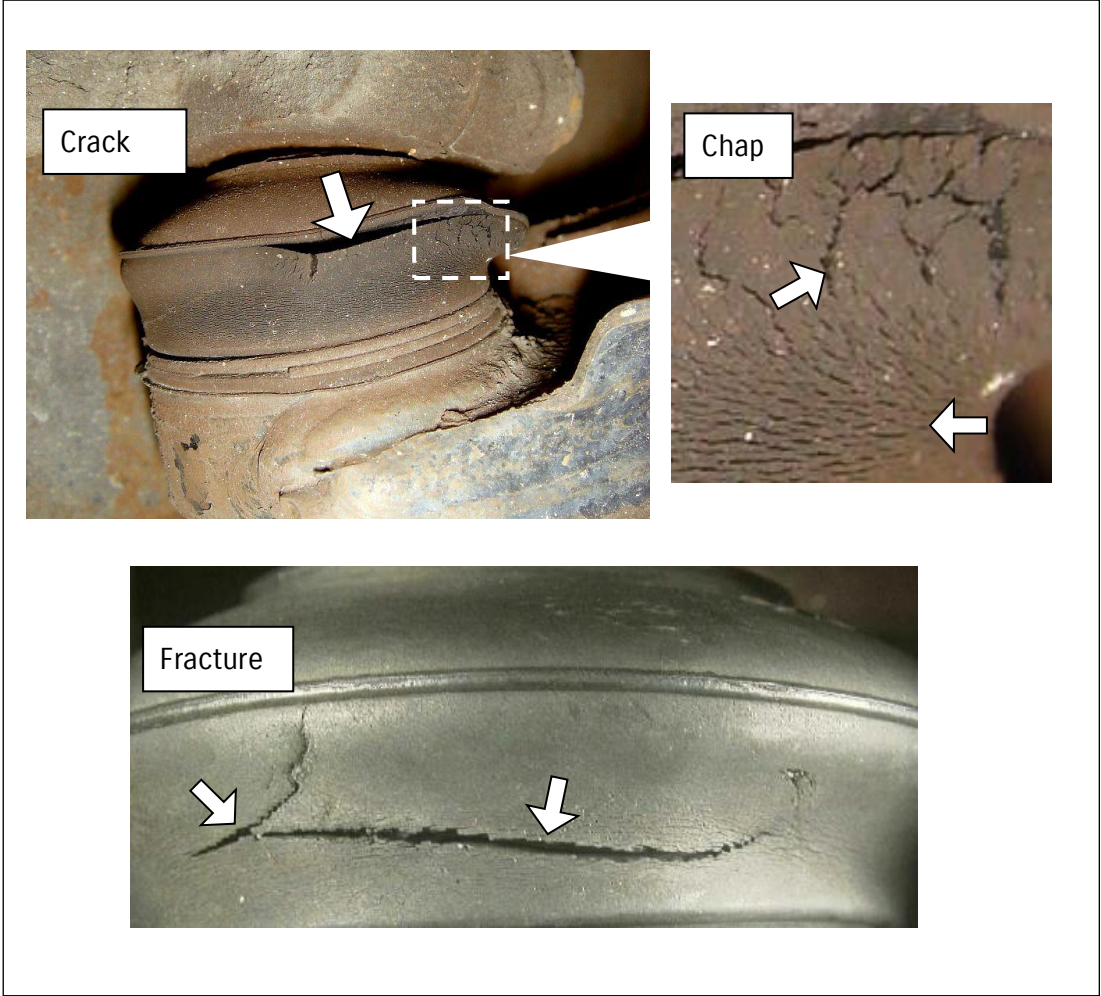

Fig.7 Example of chap, crack or fracture
1) Inspect the dust boot if there is damage such as chap, crack or fracture on it. Based on the inspection, take action according to the judgement criteria described in table 4. [Fig.7]